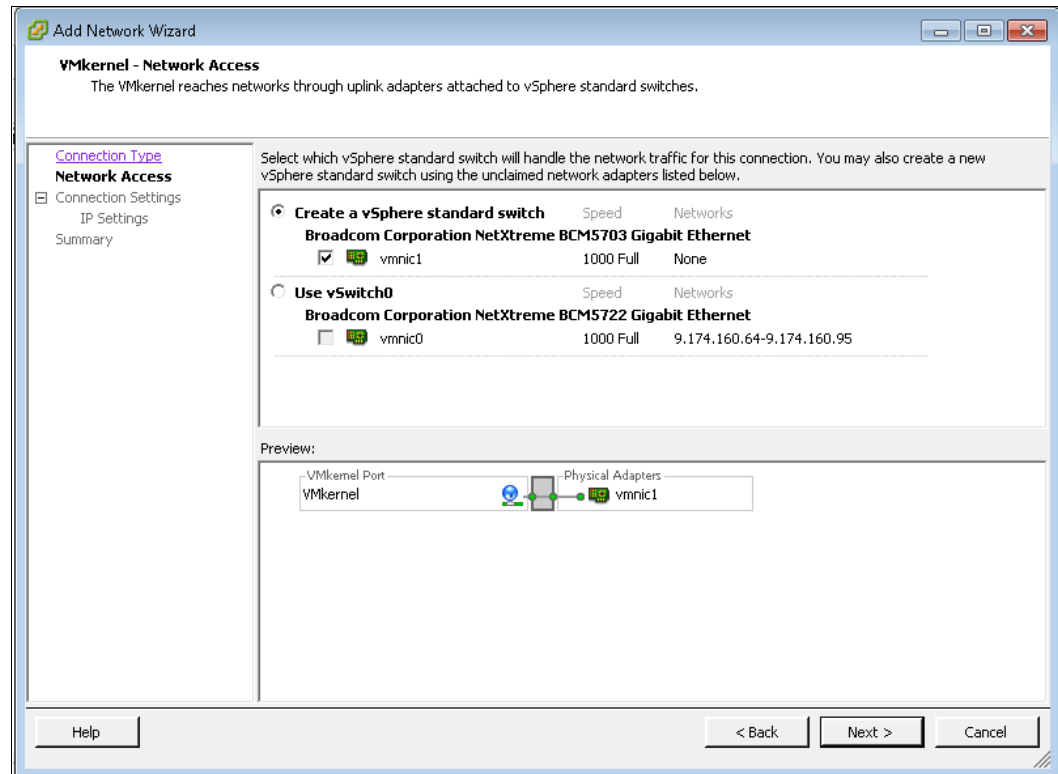

Figure 4-10 Select an iSCSI interface
3. Select one or more network interfaces that you want to use for iSCSI traffic and click **Next**, as shown in Figure 4-10.